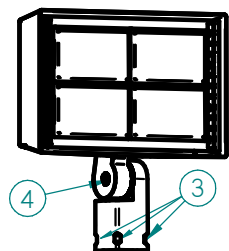

FIGURE 2
Knuckle Mount (Fig. 2):
- Mount fixture on 2 3/8" tenon, tighten down 4 set screws (Item 3 Fig. 2).
- Loosen bolt inside knuckle enough to adjust fixture. Once fixture is aimed at the desired target, tighten the bolt (Item 4 Fig. 2).